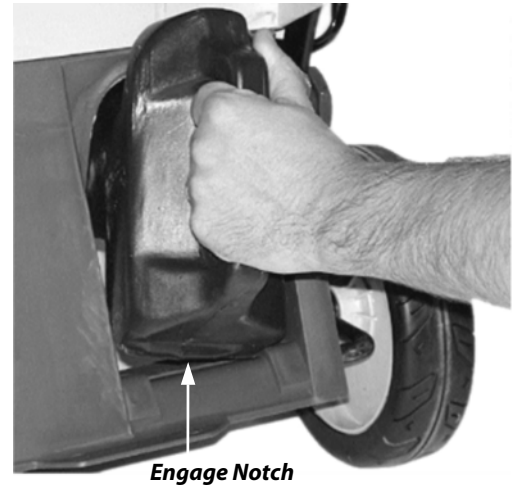

Figure 9
2. Install the Mulching Plug (**Figure 9**). Be sure to push the Plug all the way in until the Notch in its bottom is engaged.